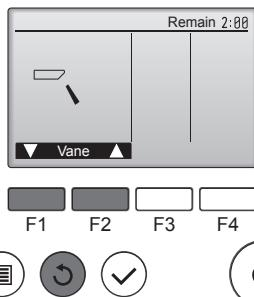

Fig. 8-4
- Press the [SELECT] button to display the Vane operation screen, and then press the [F1] and [F2] buttons to check the auto vane. (Fig. 8-4)